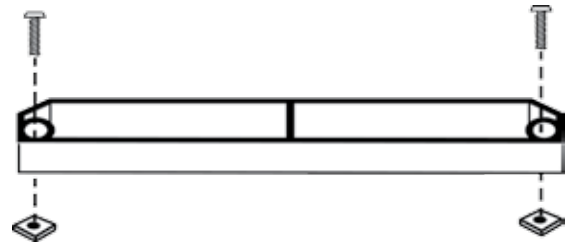

Figure 16-1
6. Assemble the limit cams by placing the supplied screws into the open side of the cam and loosely screwing the square nuts onto the screws. [Figure 16-1]
[Figure 16-1]